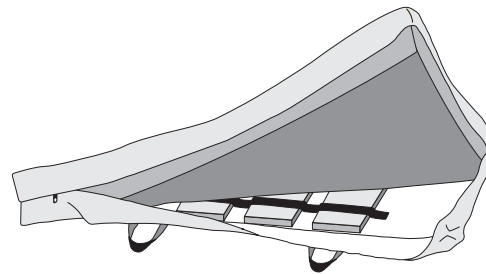

Figure 2—Support Boards
- When the mattress is used on a link-spring bed frame, it may cause the RSM mattress to sag. Additional support can be provided by using three appropriately sized support boards. The RSM mattress contains straps inside the bottom of its cover to accommodate these boards and hold them in place. See figure 2.